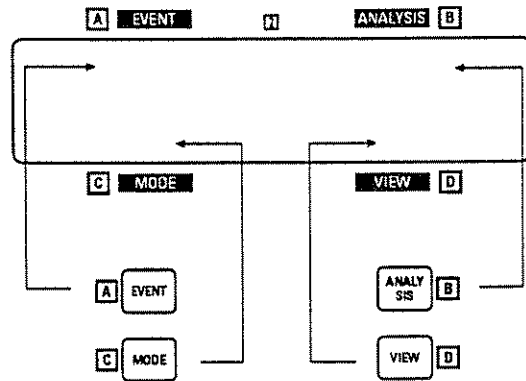

Figure 3-4: Softkeys
3.2.2 Softkeys [A], [B], [C], [D]: See Fig 3-4.